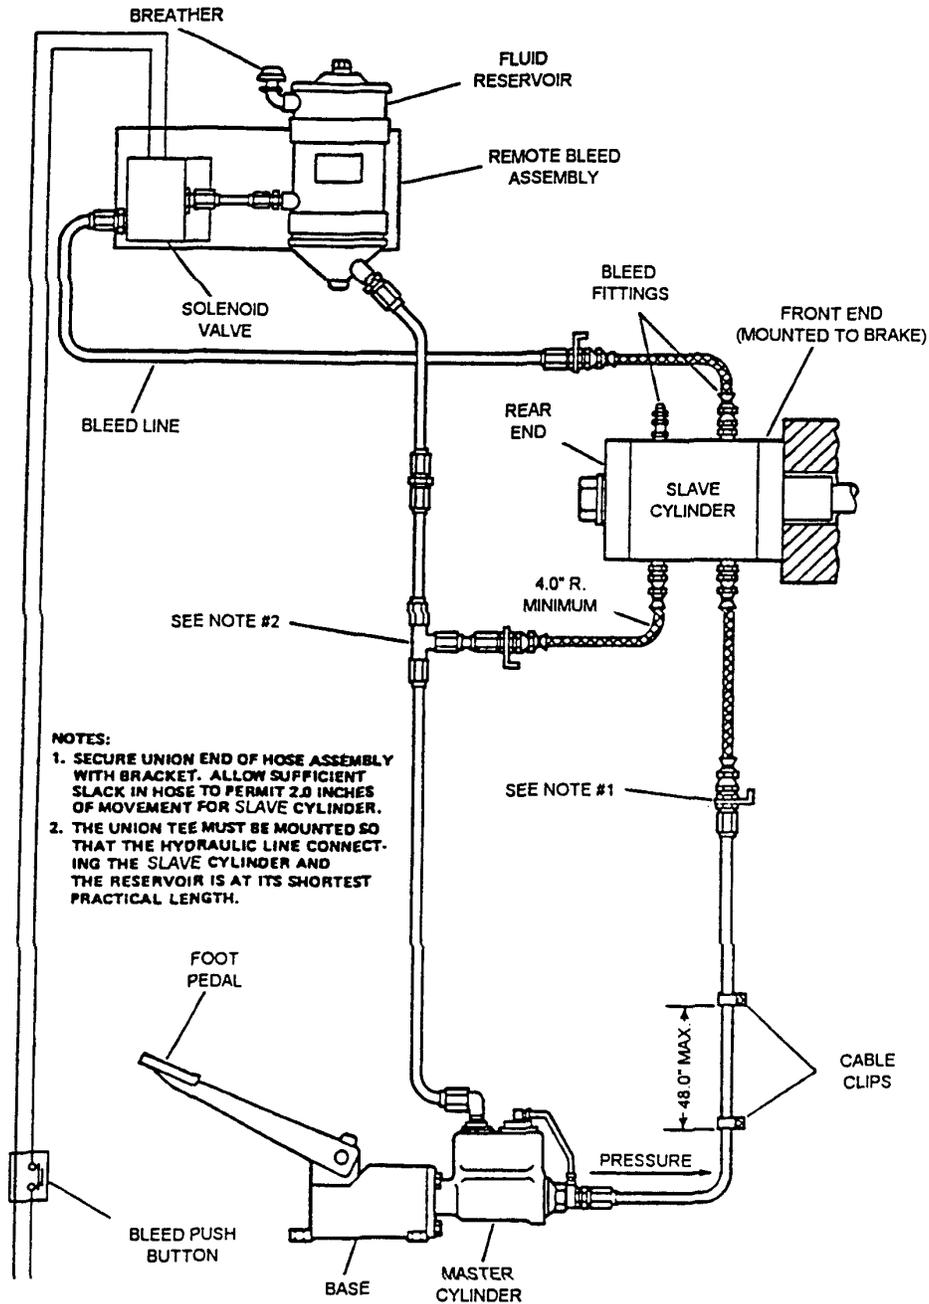

Figure 5
- 2.3.(c):** Two brakes, single station, with manual bleed. See Fig. 5.